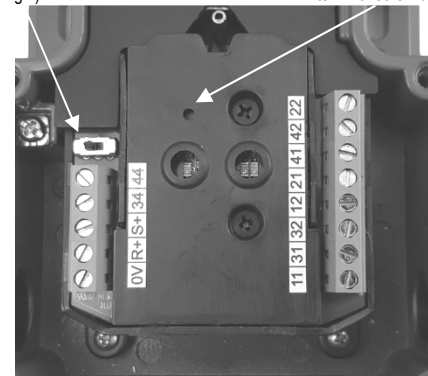

Fig. 2. Cover Removed
- 3) Using a 2mm terminal screwdriver hold down the RESET button inside the switch housing and turn on the switch power (see Fig.2).